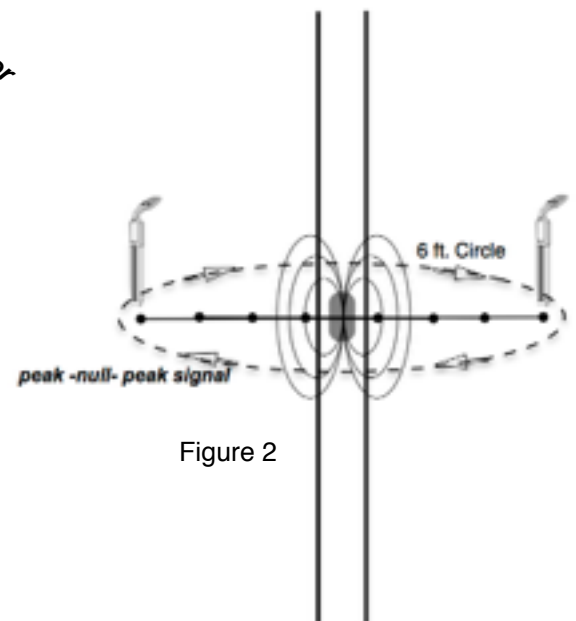

Figure 2
1. Step 2ft. - 3ft. towards the front the sonde to locate the **peak -null- peak signal** as shown in figure 2.
- A. (For accurate **peak -null- peak signal** location in step 2 it's best to have the receiver parallel to the right and left side markers as shown in figure 2.)
4. With the receiver 2ft - 3ft. towards the back side of the sonde, look for a **peak -null- peak signal** again on the back side of the sonde as shown in figure 2.